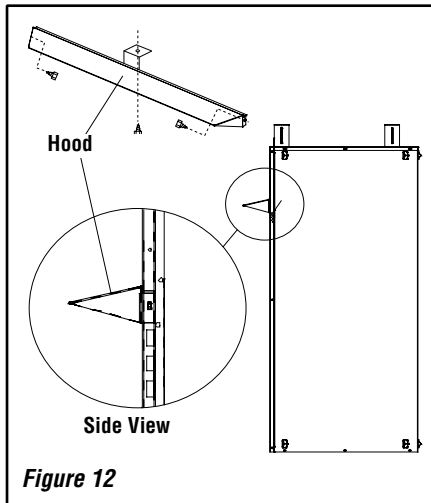

Figure 12
**NOTE:** This hood is optional. See Figure 12.
**Step 2.** Align the hood with the holes in the side frames as shown in Figure 12. Install three screws as shown in Figure 12. Make sure hood is level and secure.